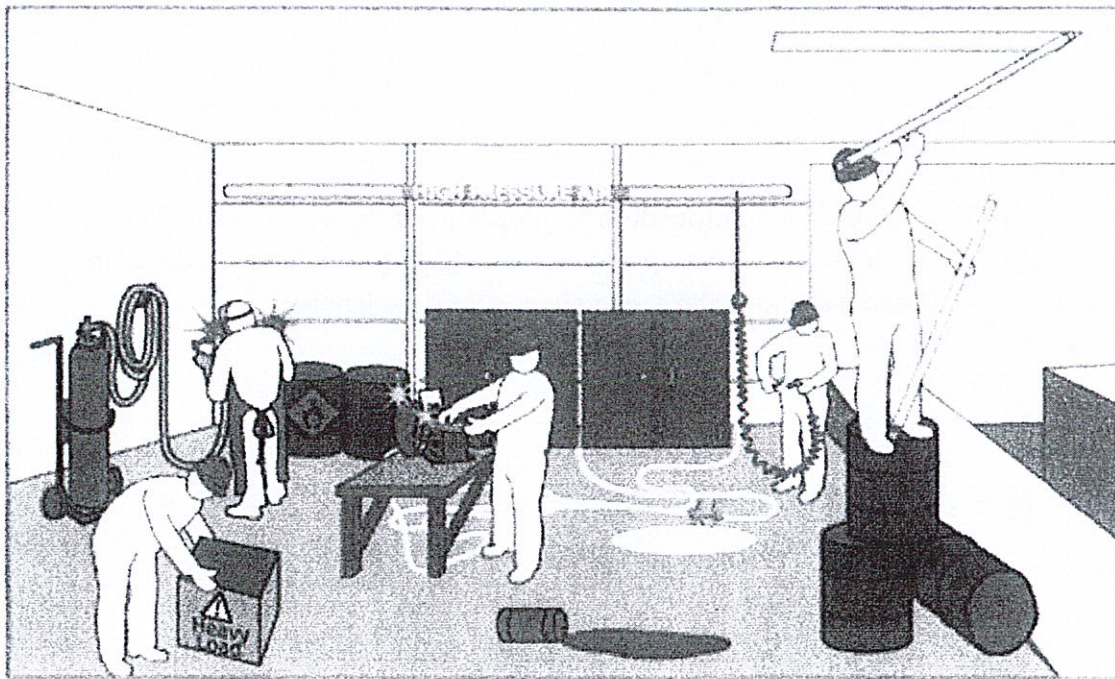

Figure 3:
- (c) Referring to the diagram in Figure 3, outline **FIVE poor work ethics** practised in the workshop that may cause incidents/accidents related to safety and health.
Refer Below - Figure3 : .